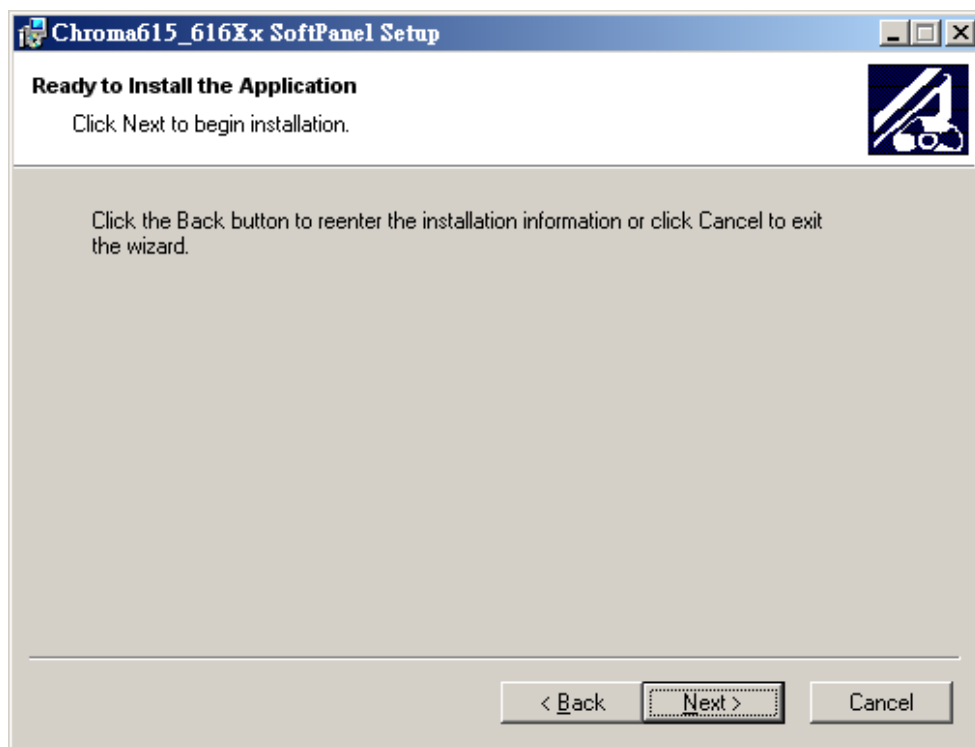

Figure 2-4 Screen of Ready to Install the Application
- Click **Next >**, the screen shows Figure 2-4 that is ready for installation.